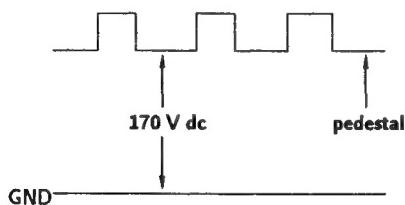

Fig.11
3. Adjust BKG VRs so that voltages on the red, green and blue cathodes are 170 V dc with an oscilloscope as shown in Fig.11.